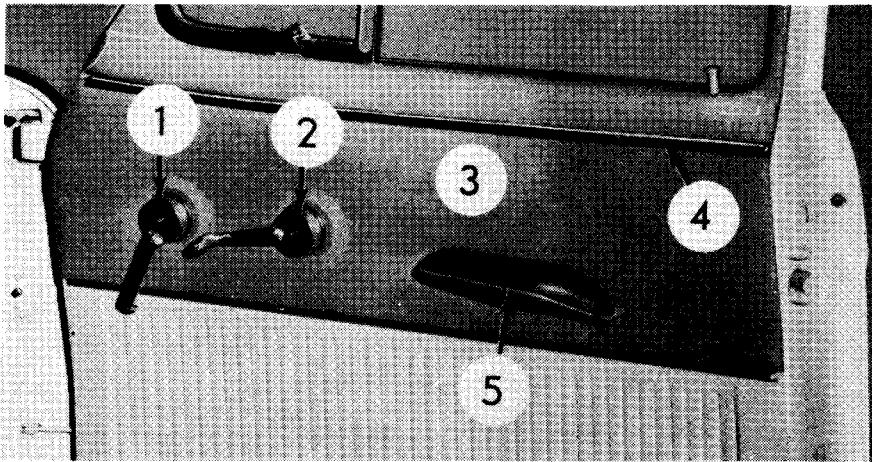
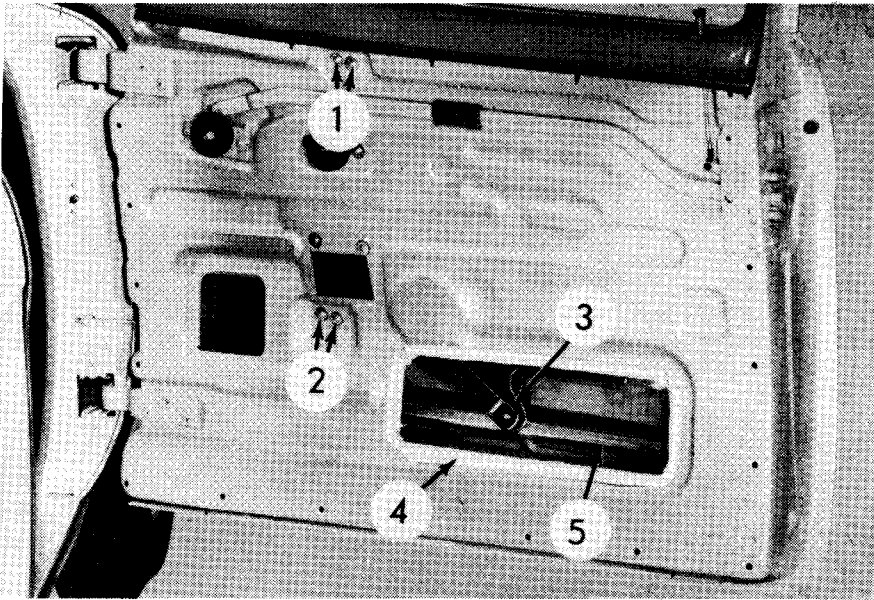

FIG. 16
FIG. 17
1. Remove the door lock remote control handle (1, Fig.16), window regulator handle (2), and arm rest (5).
2. Pry the fasteners from the holes in the door inner panel and remove the trim panel (3) by sliding it down from beneath the trim strip (4). Do not remove the trim strip.
3. Tape the edges of the large inspection hole (4, Fig.17). This is to protect you from the sharp, irregular unfinished parts of the recessed flanges.
7. Lower the glass (5, Fig.17) as far as possible without forcing.
10. Remove the two upper and two lower vent window run bracket screws (1 and 2, Fig.17).